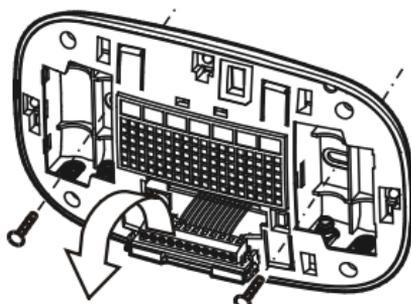

Figure 4. Open the terminal and mount into the wall
3. Open the terminal block of the ZTS-500 then insert all necessary wires through the back housing (Figure 4).
4. Fasten the back housing to the wall using the two included mounting screws. Insert the screws through the mounting holes in the housing and into the wall anchors (Figure 4).